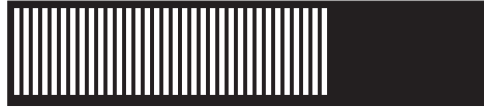

Figure 102. Hardware boot display
- The hardware boot display, shown in Figure 102, is displayed continuously.